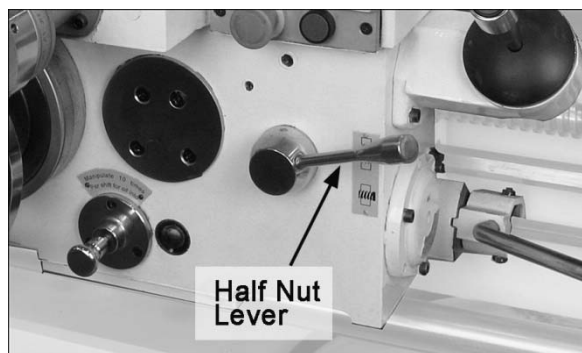

Figure 34
4. Engage the half nut (Figure 34). The half nut must be engaged during the entire threading process when doing metric, diametral, and modular threading.